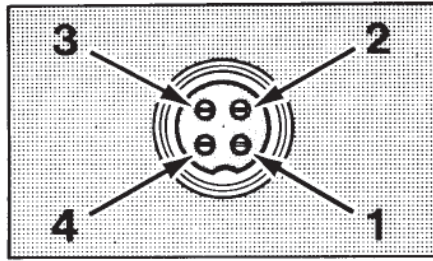

Fig. 5. Microphone plug pin numbers viewed from rear of pin receptacle.
5. The wires must now be soldered to the pins as indicated in the above wiring tables. If a vise or clamping tool is available it should be used to hold the pin receptacle body during the soldering operation, so that both hands are free to perform the soldering. If a vise or clamping tool is not available, the pin receptacle body can be held in a stationary position by inserting it into the microphone jack of the front panel. The numbers of the pins of the microphone plug are shown in Fig. 5, as viewed from the back of the plug. Before soldering the wire to the pins, pre-tin the wire receptacle of each pin of the plug.